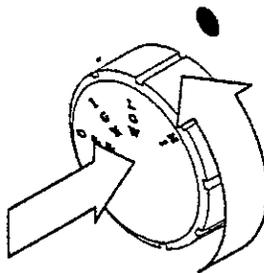

Figure 22: LOW/HIGH Position
9. Press control knob and turn to desired setting (LOW or HIGH). The control knob must be set at either the low or high position, and the control knob will pop out when positioned correctly. Do not set the control knob at a position between LOW and HIGH. Refer to *Figure 22*.